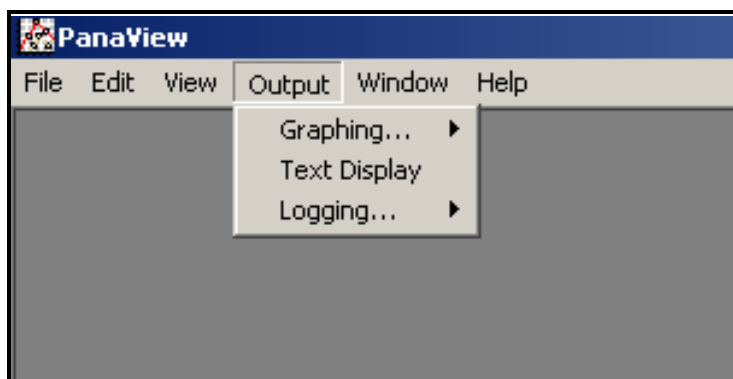

Figure 2: Output Menu
To access PanaView's data handling options, pull down the *Output* menu, as shown in Figure 2.
2. Pull down the *Output* menu and click on the *Text Display* option (see Figure 2 on page 46).
2. Pull down the *Output* menu and click on the *Graphing - New* option (see Figure 2 on page 46).